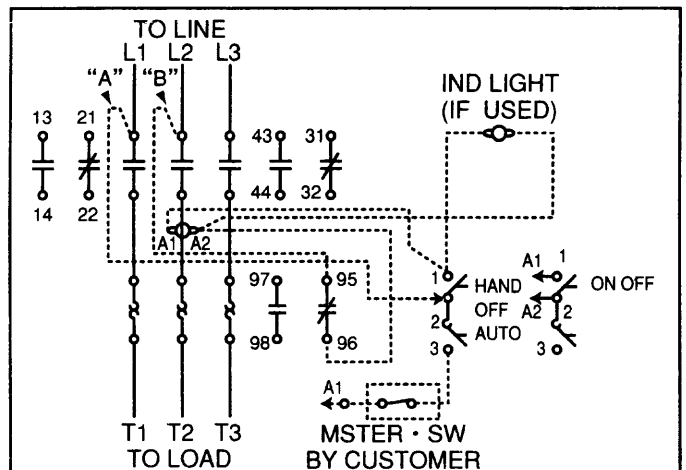

Fig. 6
- 2-wire control circuit is shown in Fig.6.